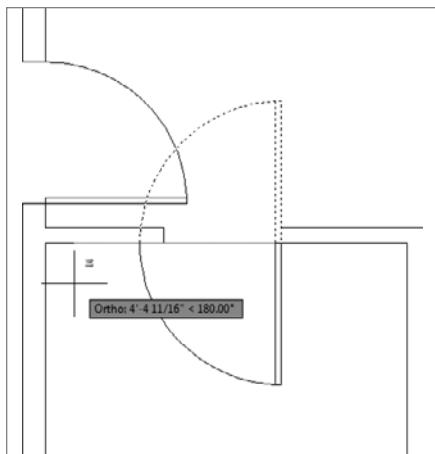

FIGURE 4.56 Using the Shift key to temporarily enable Ortho mode to pick the mirror line
7. Press and hold the Shift key to temporarily enable Ortho mode. A small icon displays in the upper right quadrant of your cursor to indicate Ortho mode is temporarily enabled; locking your cursor to increments of 90°. With the Shift key pressed, select any point to the left as shown in Figure 4.56.
increments of 90°, you don't have to be precise when selecting the second point. You can see the point selected in Figure 4.56 is not perpendicular; however, Ortho mode ensures that the mirror line is drawn along the horizontal bathroom wall.